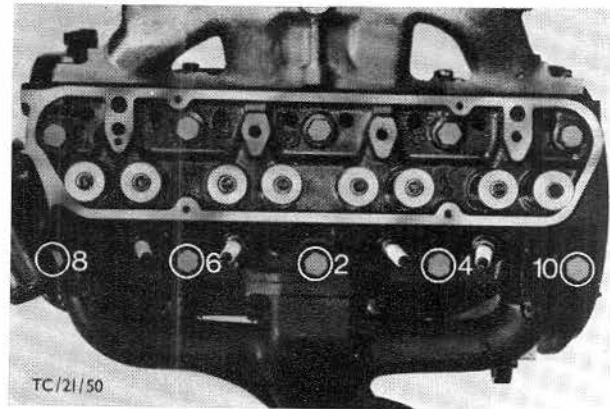

Fig. 74. Cylinder head bolt tightening sequence.
20. Wait for 15 to 20 minutes and retighten cylinder head bolts to specified torque (see Technical Data) in the sequence shown in Fig. 74, using Special Tool 21-034. Retighten bolts securing rocker shaft and recheck valve clearances.